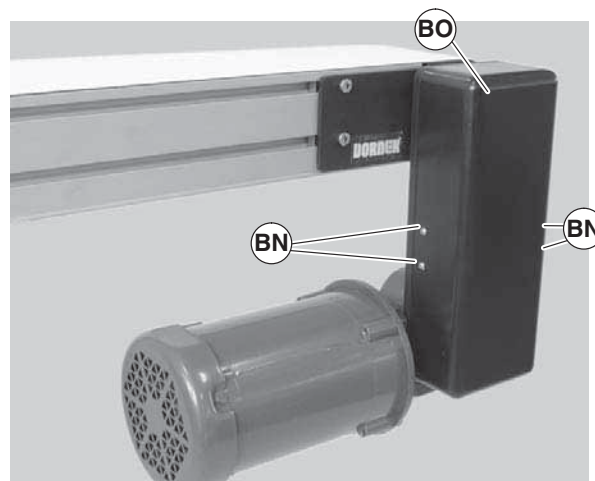

Figure 50
- b. Remove four (4) screws (Figure 50, item BN) and remove cover (BO).